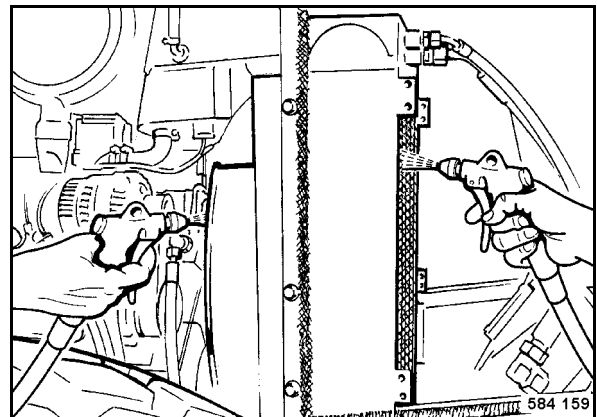

Fig. 128
- Blow the cooler (Fig. 128) out with compressed air.